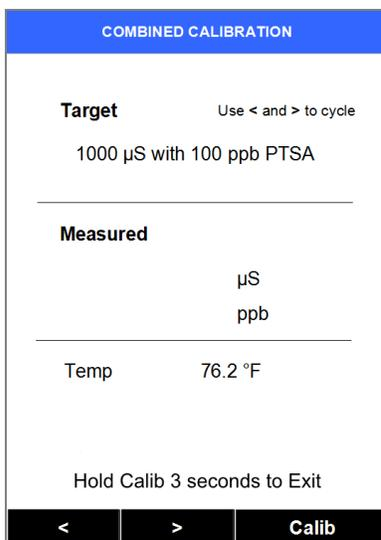

Figure 21
- 5) The default conductivity calibration screen appears (Figure 21), the Combined Calibration. This will calibrate both Conductivity (at 1000 μ S) and PTSA (at 100 ppb) when using the appropriate Combined Standard. However, if desired the conductivity calibration that is to be performed can be easily changed to several others (see the other Calibration Procedures). Otherwise, proceed with the steps below for use with the Combined Standard.
- 9) Or, press Cancel (< key) to return to the conductivity calibration type selection screen (as in Figure 21), where if desired the calibration can be changed with use of "<" or ">". (In this case